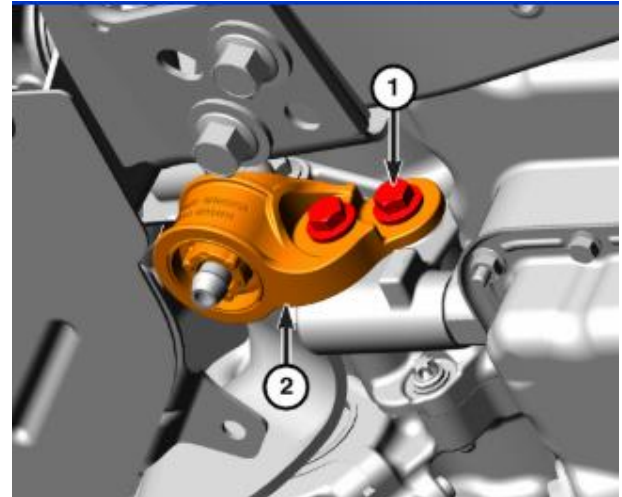

Figure 2 – Exhaust Hanger
7. Remove the exhaust hanger bolts (1) and remove the exhaust hanger (2) from the vehicle (Figure 2).